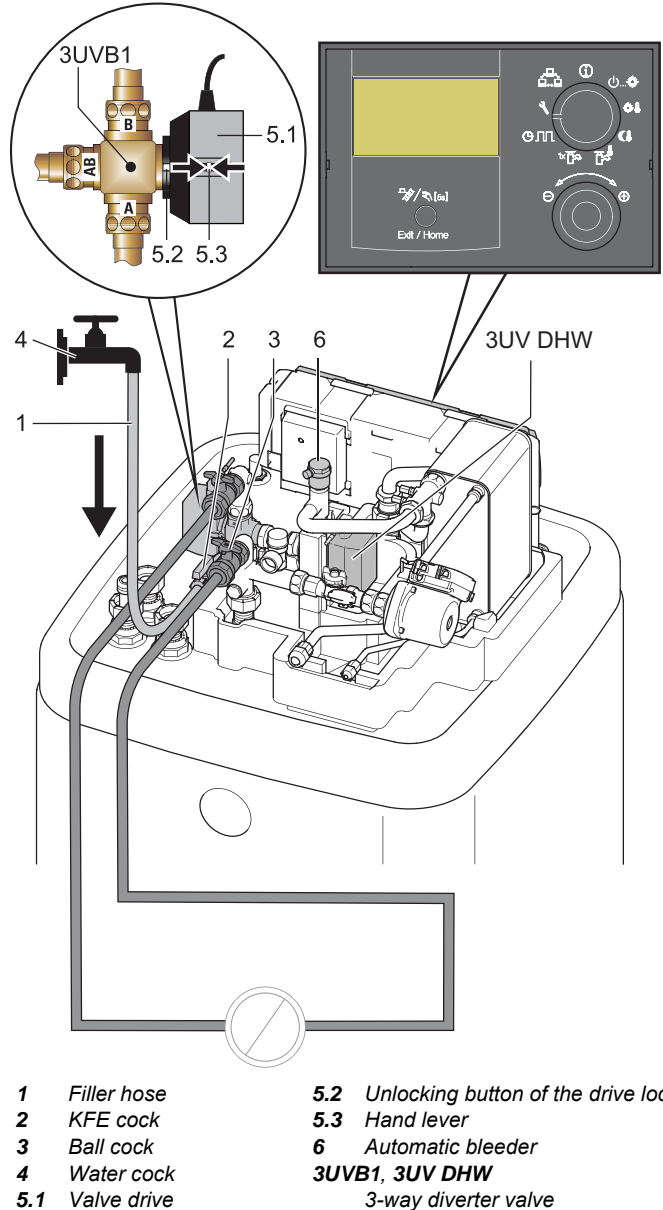

Fig. 6-3 Filling the heating circuit
Remove the valve drive of the 3-way diverter valve **3UVB1 + 3UV DHW** (see figure 6-3). To do so, press the unlock button on the valve drive (see figure 6-3, item 5.2) and turn the valve drive a 1/8-turn anti-clockwise (bayonet socket).
2. Connect the filling hose (figure 6-3, item 1) with backflush prevention (1/2") and an external pressure gauge (on-site) to the KFE cock (figure 6-3, item 2) and secure from slipping using a hose clamp.
3. Open the water cock (figure 6-3, item 4) in the supply line.
4. Open KFE cock (figure 6-3, item 2) and watch the pressure gauge.
6. Close KFE cock (figure 6-3, item 2).
9. During the hot water heating mode, continuously check the water pressure at the external pressure gauge. Where necessary, refill with water via the KFE cock (figure 6-3, item 2).
12. Inspect the water pressure at the external pressure gauge again. Where necessary, refill with water via the KFE cock (figure 6-3, item 2).
13. Close the water cock (figure 6-3, item 4) in the supply line.
14. Disconnect the filler hose (figure 6-3, item 1) with flow-back preventer from the KFE cock (figure 6-3, item 2).